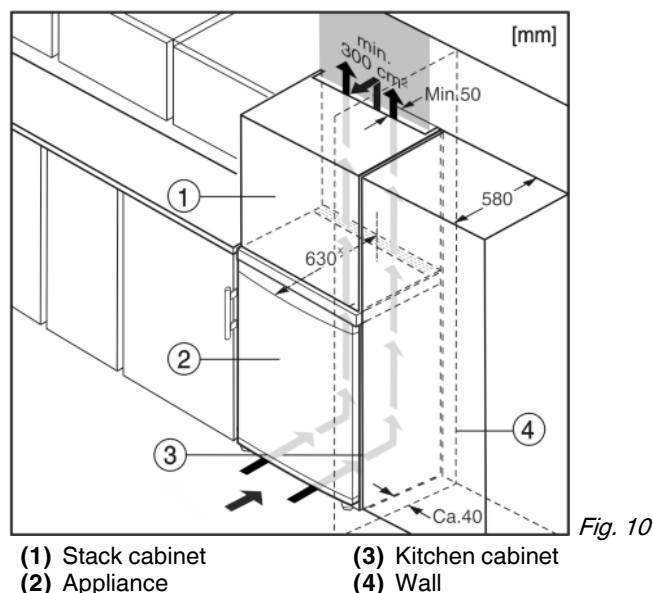

Fig. 10
The appliance can be inserted into a row of kitchen units. To match the appliance *Fig. 10 (2)* to the height of the row of units, a suitable stack cabinet *Fig. 10 (1)* can be fitted above the appliance.
When installing with kitchen units (max. depth 580 mm), the appliance can be positioned directly next to the kitchen cabinet *Fig. 10 (3)*. The appliance will project by 34 mm* at the sides and 50 mm* in the centre of the appliance in relation to the kitchen cabinet front.
If the appliance is installed with the hinges next to a wall *Fig. 10 (4)*, the distance between appliance and wall has to be at least 40 mm. This corresponds to the projection of the handle when the door is open.